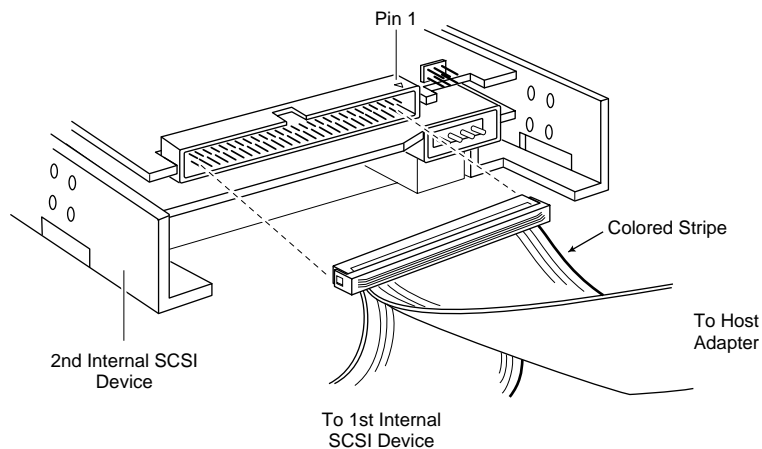

Figure 2-8. Connecting a Second Internal SCSI Device
- 3 To connect a second internal SCSI device, plug the middle connector of the SCSI ribbon cable into the SCSI connector on the second internal SCSI device, as shown in Figure 2-8.